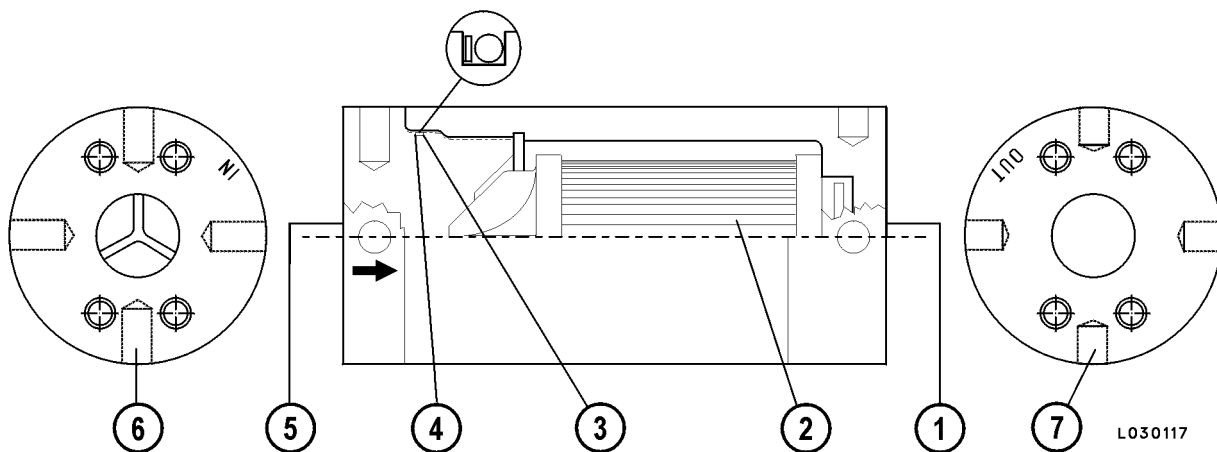

FIGURE 4-7. FILTER ASSEMBLY
1. Place filter assembly (Figure 4-7) on work bench. Using a spanner tool at both ends, hold housing (1) and loosen (counter-clockwise) inlet housing (5).